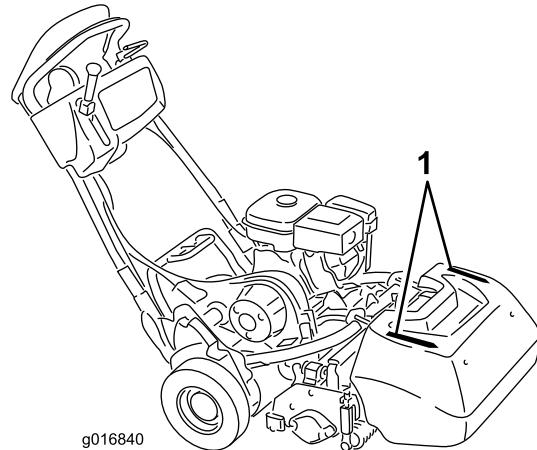

Figure 26
- To assist in maintaining a straight line across the green and to keep the machine an equal distance from the edge of the previous cut, use the alignment stripes on the basket (Figure 26).